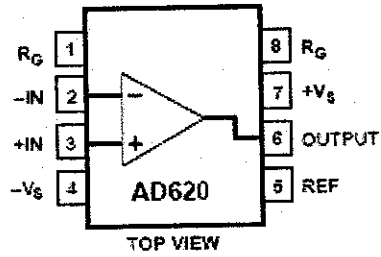

Figure 9: Pin layout of AD620 [7]
- Figure 9:** Pin layout of AD620